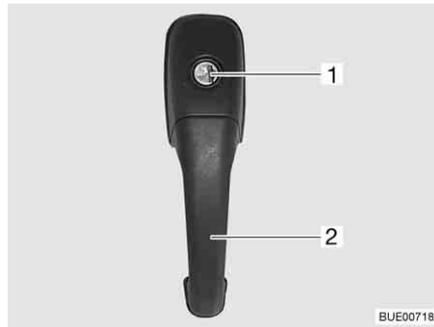

Fig. 29 Door lock of conversion door, outside
- Insert the key into locking cylinder (Fig. 29,1) and turn until the door lock is unlatched.
- Pull on the handle (Fig. 29,2). The door is open.
- Insert the key into locking cylinder (Fig. 29,1) and turn until the door lock is engaged.